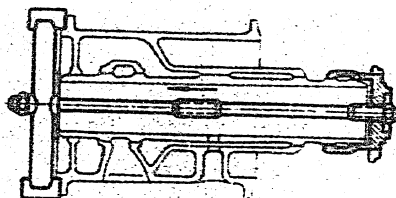

Fig. 25
7. Press on the holder with the aid of a special tool so that the lubricating ports in the engine cylinder register with those in the holder (Fig. 25).